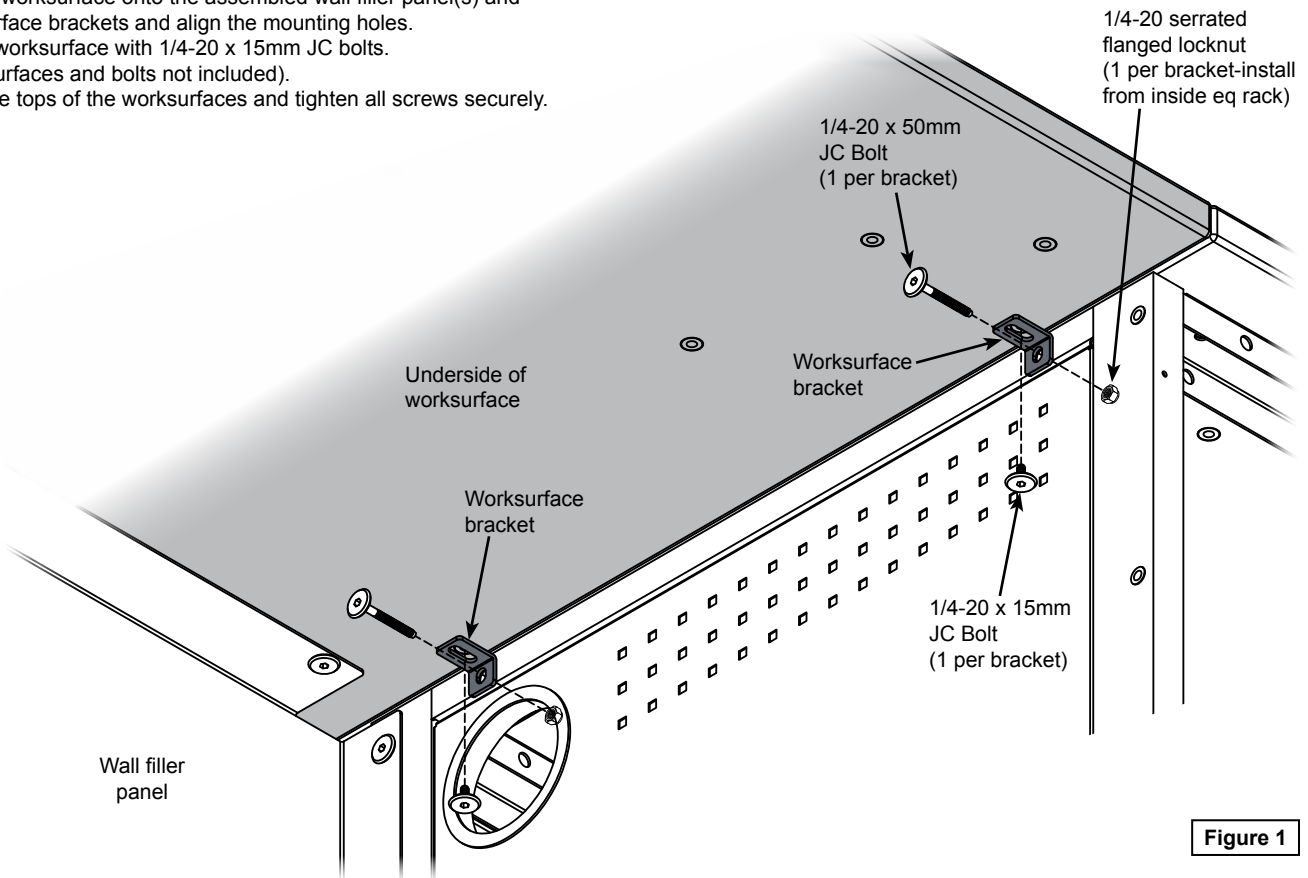

Figure 1
1. Attach each worksurface bracket to the equipment rack with (1) 1/4-20 x 50mm JC bolt and (1) 1/4-20 serrated flanged locknut (*attached from inside eq rack*). (The slotted side of each bracket will attach to the worksurface.) Do not tighten completely. **Figure 1**.